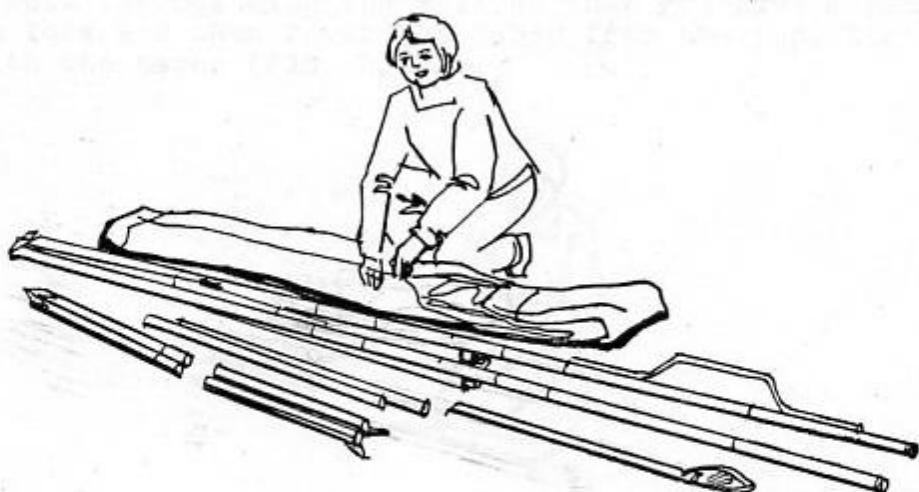

Fig. 5.3.3.
18. Place the sail package into the bag and zip the zipper (Fig. 5.3.3).